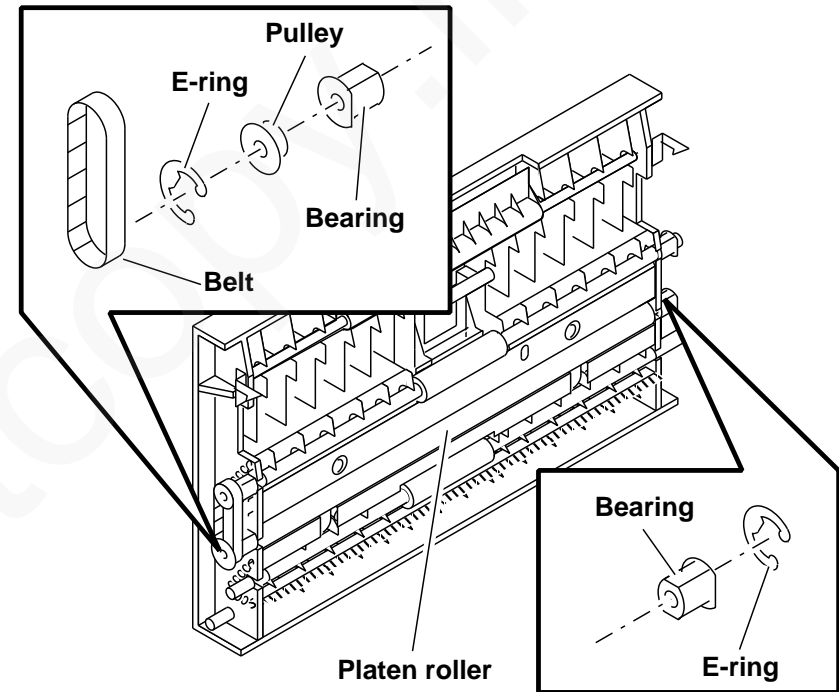

Figure 5. Platen roller removal
- c. Remove input idler shaft belt (Figure 5).
- d. Remove E-ring, pulley, and bearing from front end of platen roller shaft (Figure 5).